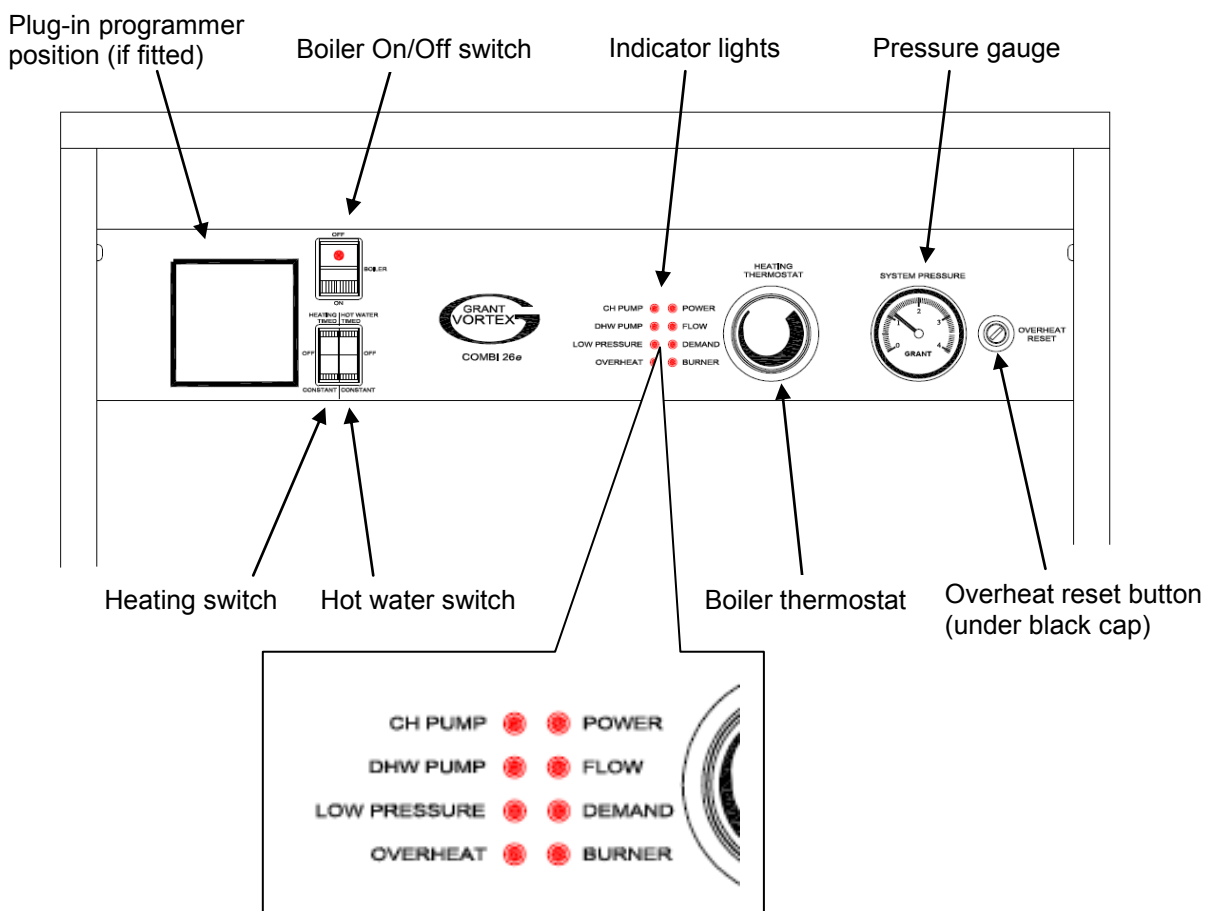

Fig. 1 – Vortex Pro Combi control panel
1.2 Boiler controls (see Fig. 1)
- 1 **Boiler On/Off switch** – This switches the boiler on and off. The boiler On/Off switch incorporates a 'mains on' neon; see Fig.1, which lights when the boiler is switched on. Please note that the 'mains on' neon does not necessarily indicate that the burner is firing.
1.4 Lighting your boiler (Refer to Fig. 1)
1.5 Turning off your boiler (Refer to Fig. 1)
- 10 Check the heating system water pressure. If it falls below 0.2 bar the boiler low pressure cut-out will be activated, cutting power to the burner, and the red 'LOW PRESSURE' indicator on the control panel (see Fig. 1) will flash. The system must be re-charged to between 0.5 and 1 bar. If the heating system loses pressure on a regular basis then contact your Installer to investigate the cause.
The boiler operates on a sealed heating system. Your installer will have pressurised the system and set the white pointer on the pressure gauge (see Fig. 1) to indicate a system pressure (when cold) of usually between 0.5 and 1.0 bar. **Do not** adjust this pointer.
If the heating system water pressure falls below 0.2 bar the boiler low pressure cut-out will be activated, cutting power to the burner, and the red 'LOW PRESSURE' indicator on the control panel (see Fig. 1) will flash. The system must be re-charged to between 0.5 and 1 bar. If the heating system loses pressure on a regular basis then contact your Installer to investigate and rectify the cause.
- 2 **Pressure switch** – If the heating system water pressure falls below 0.2 bar the boiler pressure cut-out switch will activate and the red 'LOW PRESSURE' indicator on the control panel (see Fig. 1) will flash. The system must be recharged to between 0.5 to 1bar. If the heating system loses pressure on a regular basis then contact your Installer to investigate the cause.
- 4 **Overheat thermostat** –Your boiler is fitted with a safety overheat thermostat which will automatically switch off the boiler in the case of a control malfunction causing overheating. The red 'OVERHEAT' indicator on the control panel (see Fig. 1) will flash indicating the overheat thermostat has operated.
If your boiler goes off and you try to light it but nothing happens and the 'Lock-out' reset button on the burner is not lit, the overheat thermostat has probably operated. The boiler will not light until the thermostat is reset. To reset, unscrew the small plastic cap (see Fig. 1), and press the button and the 'OVERHEAT' indicator should go off. Replace the plastic cap.